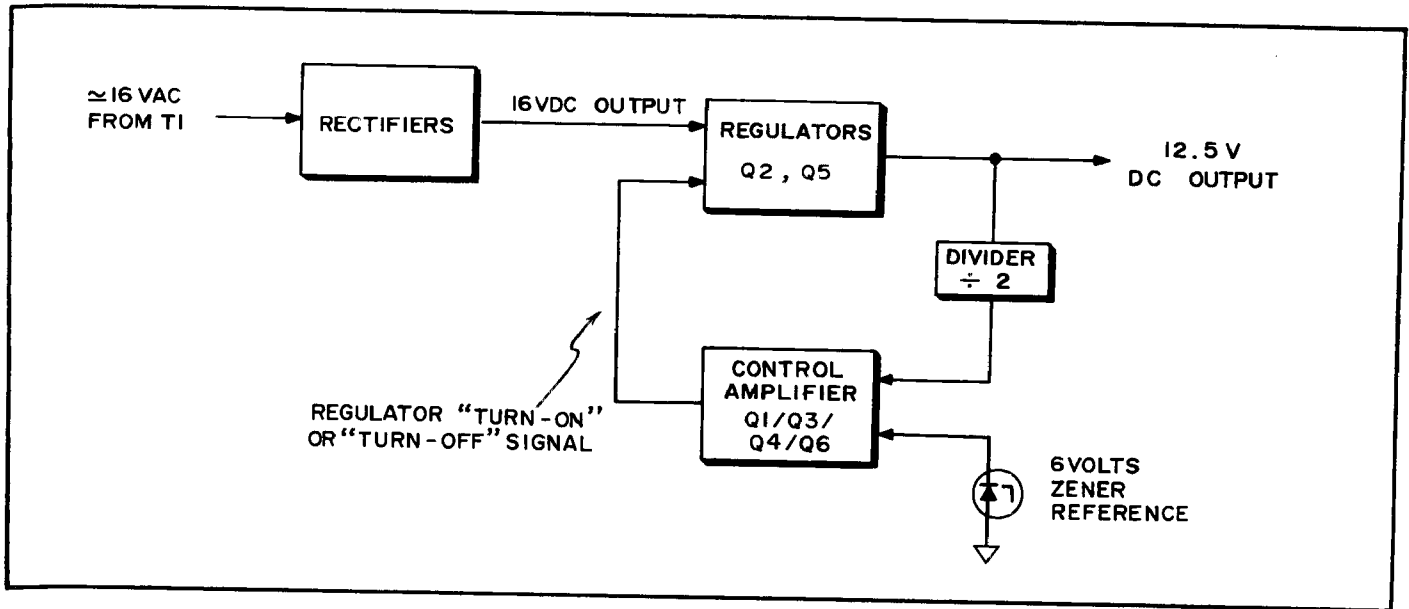

Figure 5-5. Low Voltage Power Supply
a. Suspected problems in the ± 12.5 Vdc supplies are rapidly confirmed by measuring the supply output values. Power supply faults can be further categorized into AC or DC circuit problems by checking the 16V AC level at the rectifier inputs. If this AC is not present, check transformers and connections between line input and low voltage rectifiers. If the 16V ac is present, proceed to troubleshoot the transistor regulator, transistor amplifier, and the full-wave rectifier portions of the supply. See Figure 5-5 and 5-6.